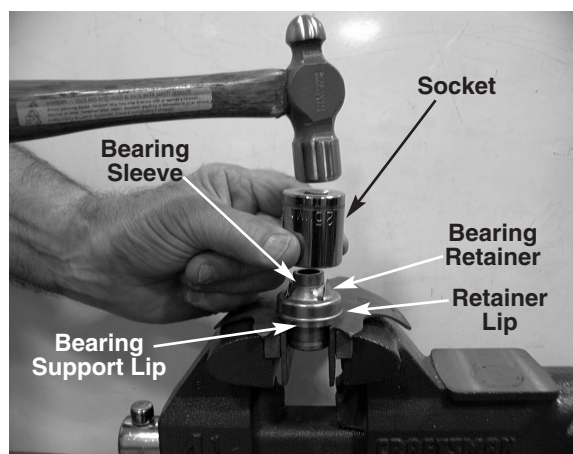

FIGURE 1.
5. Find a socket that will fit over the center raised bearing retainer area, yet fit flush on the outer perimeter of the bearing retainer. See figure 1.
7. Place the socket over the bearing retainer perimeter and tap the bearing assembly until the bearing sleeve is firmly in place. See figure 1.